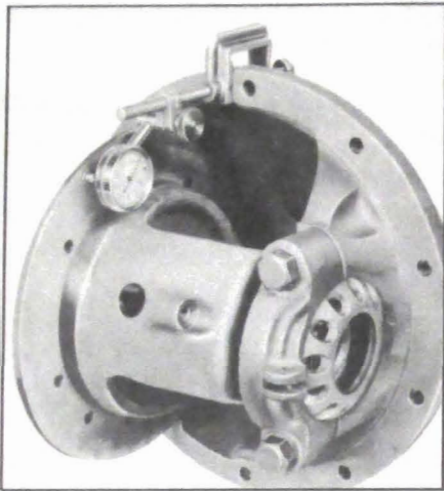

Figure 5-15—Checking Run-out of Differential Case Flange
3. After removal of gear, check machined face of case flange for burrs, particularly around rivet holes. Clean off all burrs with a mill file. Mount case in differential carrier with a dial indicator set to check runout of machined flange surface as shown in figure 5-15. If run-out exceeds .002", the flange must be trued up in a lathe to not over .002" run-out.